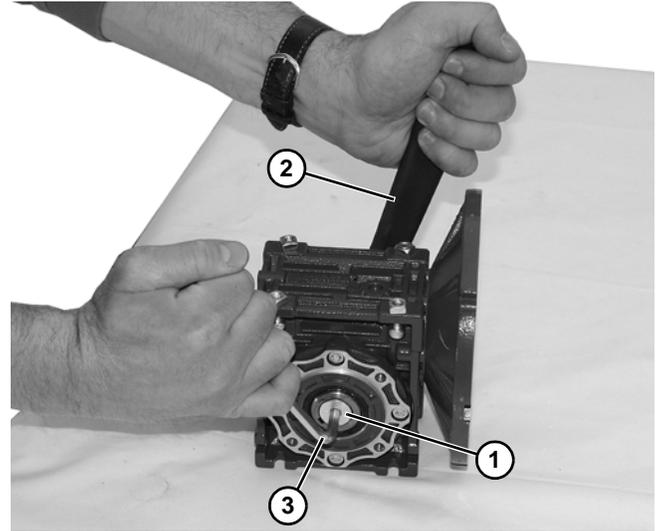

Figure 28
1. Loosen driveshaft bolt (**Figure 28, item 1**).
2. Hold the driveshaft with a wrench (**Figure 28, item 2**) as shown to keep shaft from turning, while removing screw with hex wrench (**Figure 28, item 3**).
7. Hold the driveshaft with a wrench (Figure 28, item 2) as shown to keep shaft from turning, while installing screw with hex wrench (Figure 28, item 3). Tighten cap screw to 100 in-lb (11.5 Nm) for 42CZ or 350 in-lb (39.5 Nm) for 56C, 63B5 and 71B5.
8. Apply anti-seize to motor shaft before assembling to gearbox. With key (Figure 28, item 2) in keyway, slide motor (Figure 28, item 2) and gear reducer (Figure 28, item 3) together. Install screws (Figure 28, item 1) and tighten.
9. Install output shaft cover (Figure 28, item 6) and secure with two (2) screws (Figure 28, item 5).